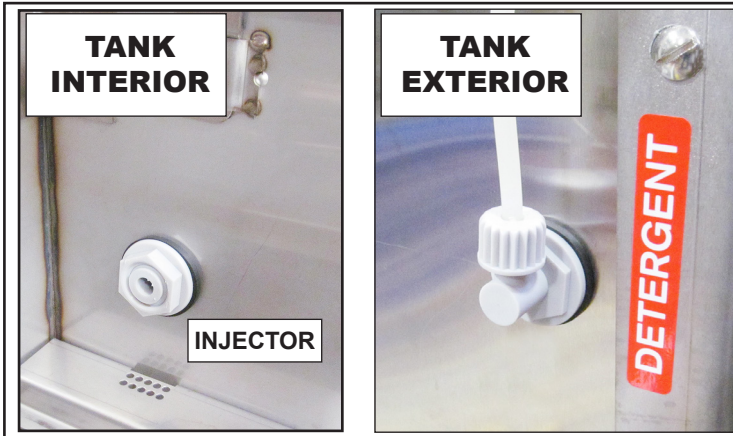

Fig.11 -
- Detergent injector is located on the right-side of machine, Fig. 11.